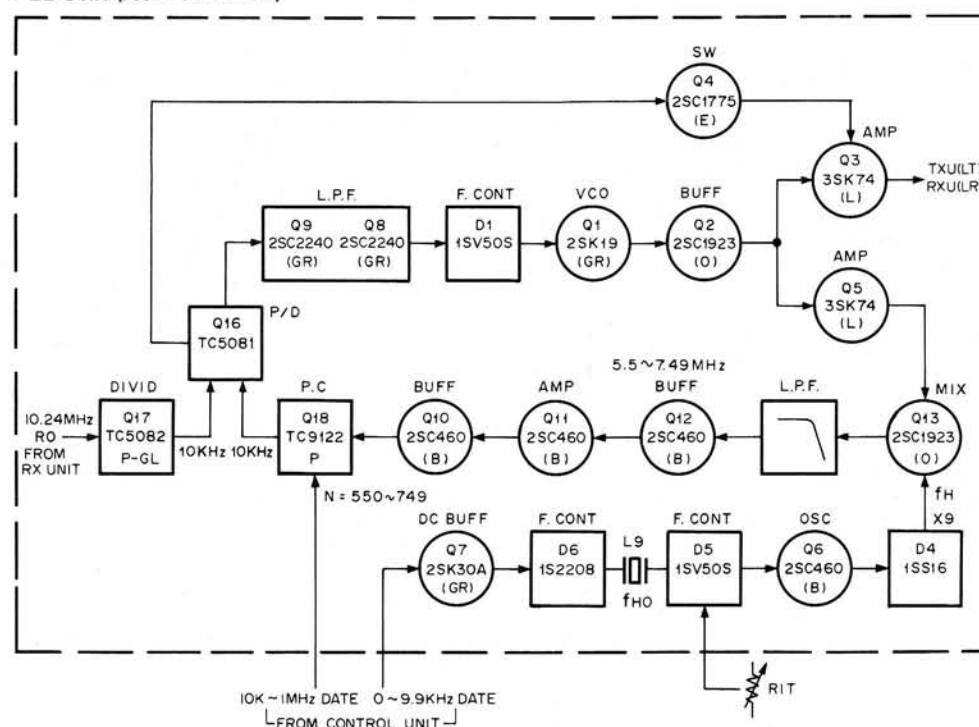

Fig. 2 PLL Unit Block Diagram
Fig. 2 shows a basic block diagram of PLL circuit. The signal from the VCO (Q1, a 2SK19 (GR)) passes through the buffer amplifier formed by Q2, a 2SC1923 (O) and Q5, a 3SK74 (L), and is then mixed with the HET (Heterodyne) signal by Q13, a 2SC1923 (O) to produce 5.5 ~ 7.49 MHz signal. This signal is amplified by Q10, 11 and Q12, 2SC460 (B) and is frequency-divided by Q18 (TC9122P) according to the BCD data (MHz, 100 kHz and 10 kHz order) from the control unit, to produce 10 kHz comparison signal. Simultaneously, the 10.24 MHz signal from the RX unit is frequency-divided to 1/1024 by Q17 (TC5082P-GL) to produce 10 kHz reference signal. These signals are phase-compared by Q16 (TC5081P) and fed to the LPF formed by Q8 and Q9, and the resulting control voltage is applied to the VCO vari-cap tuning diode.